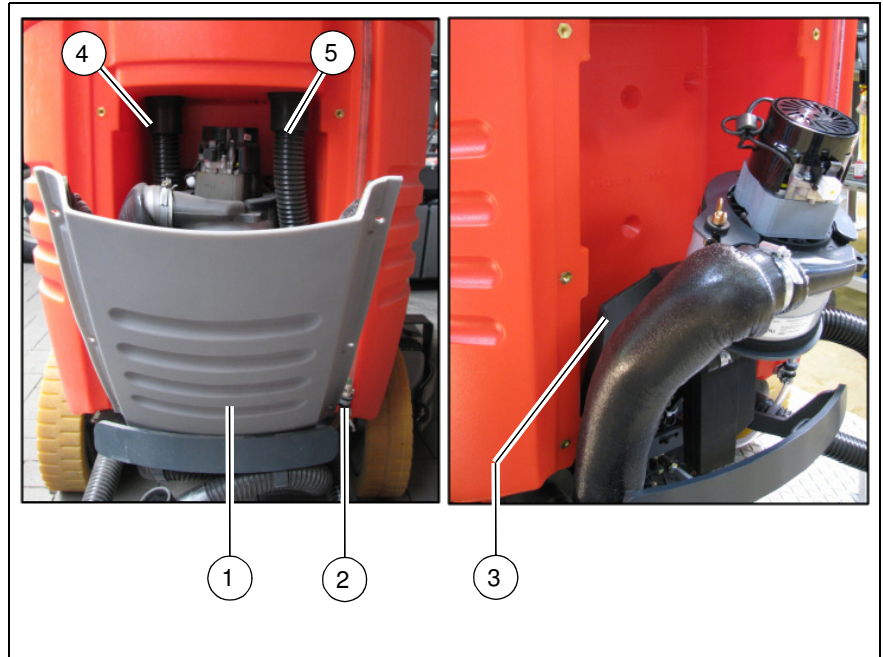

Fig. 1
1. Disassemble the cover (Fig. 1/1) and pull off the pipe clip (Fig. 1/2) for the hose of the fill level indicator.
2. Unscrew the holder (Fig. 1/3).
3. Pull out the clean water hose (Fig. 1/4) and waste water hose (Fig. 1/5).